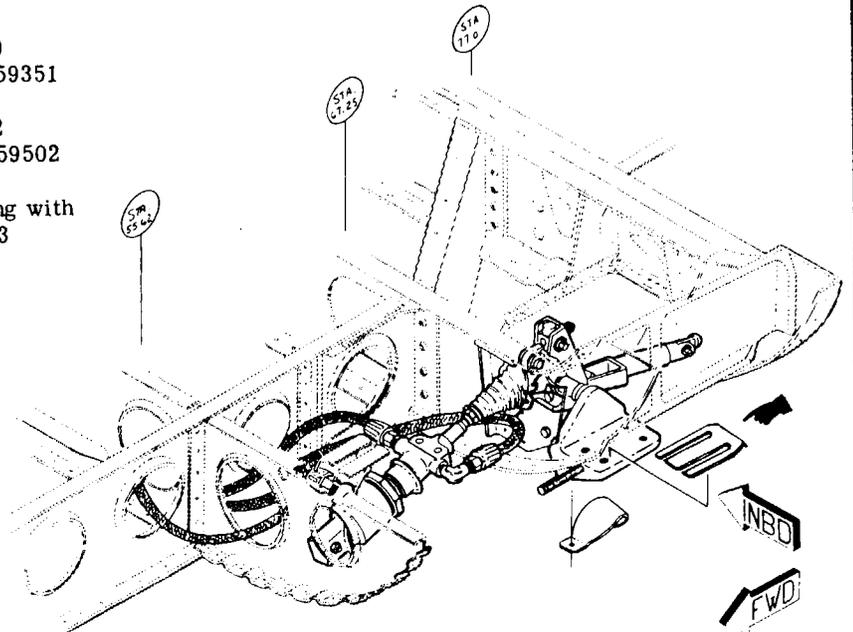

Figure 5-6. Main Landing Gear Downlock Installation
5-28. DOWNLOCK MECHANISM. (Refer to Figure 5-6.)
5-29. DESCRIPTION. The downlock mechanism is comprised of hydraulic actuators connected to arm assemblies, which trip downlock hooks, releasing the main landing gear struts. Figure 5-6 illustrates the downlock mechanism and may be used as a guide for determining relationship of parts. A locator illustration is also provided, which shows station numbers, bulkheads, ribs and parts of the downlock mechanism.
- C. Components may be removed or installed using Figure 5-6 as a guide.